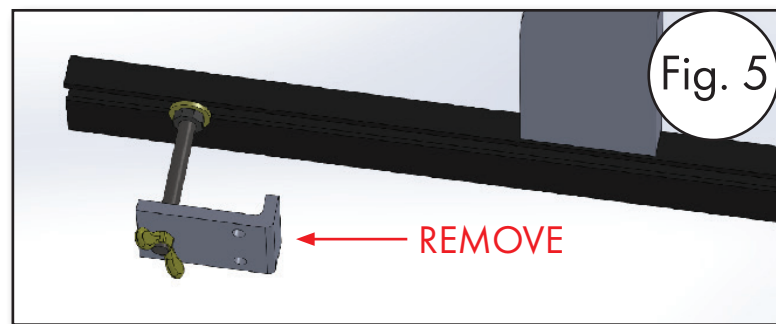

Fig. 5
1. Remove factory installed clamp on the left of the Circle Cutter extrusion by loosening nut against the bottom side of the extrusion (Fig. 5).